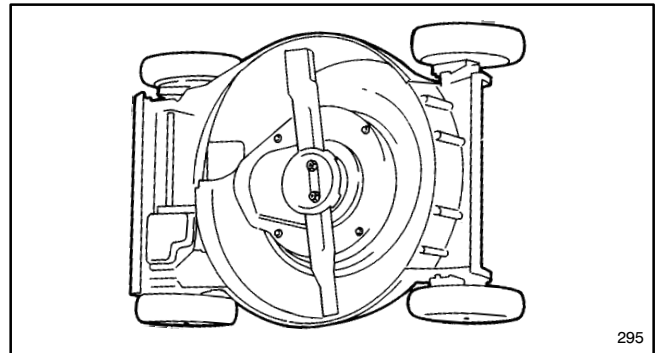

Figure 37
3. Tip mower on its left side (Fig. 37).